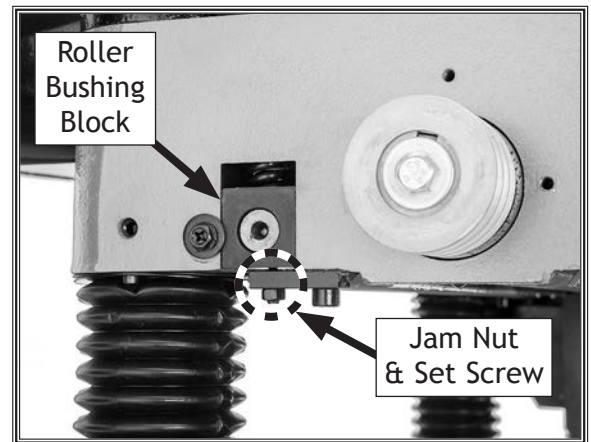

Figure 51. Example of infeed roller bushing block and height adjustment controls.
8. Loosen jam nuts and use set screws on each side of feed roller (see **Figure 51**) to adjust height of infeed roller bushing block until Rotacator dial shows 0.040", which is the recommended distance for infeed roller below cutterhead.